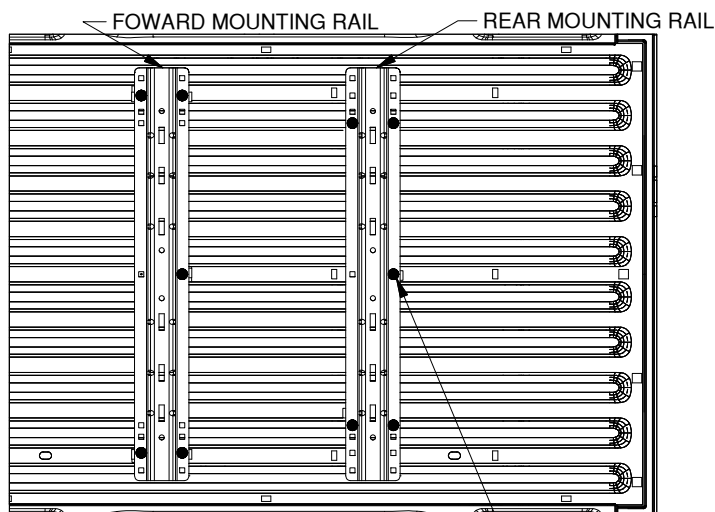

Figure A2: Detail view over bed, showing drill locations for the forward and rear bed rails.
- 2. Mark hole locations:** While carefully ensuring the mounting rail does not move, use a center punch tool to mark the 5 drill locations on the rear rail. See figure A2 for hole marking locations for this installation (forward rails will install on a later step). Once all 5 rear rail locations are clearly marked, move the bed rail out of the way and drill each location with an 1/8" drill.
- 3. Drill forward mounting holes.** Using the same methods as used for the rear mounting rail, mark and drill the 1/8" holes for the forward mounting rail. Refer to "DRILL REAR MOUNTING HOLES" section, step 2, on a previous page. Notice that the hole locations are slightly different than the rear rail, see figure A2 (on the second page).